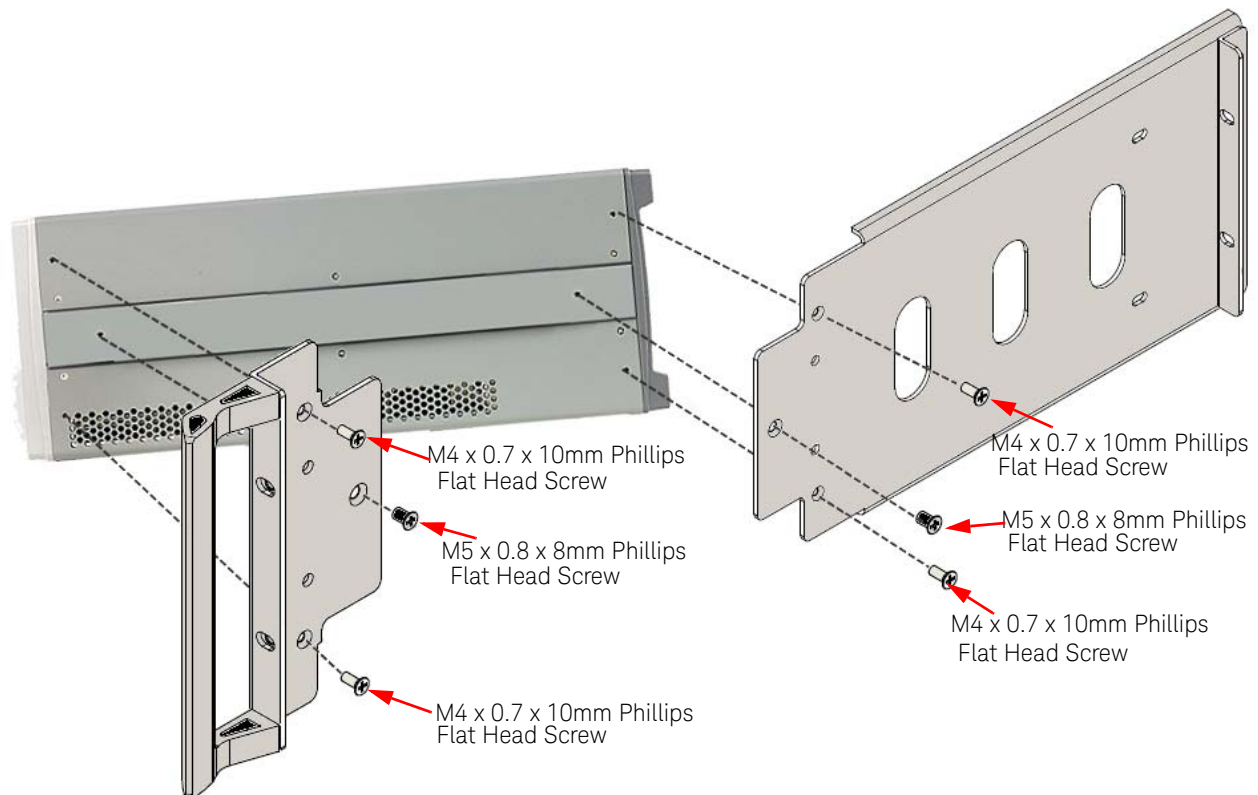

Figure 4 Mounting the front and rear brackets to the M9018A chassis (Right side shown)
- 7 Attach the front and rear mounting bracket assemblies to the chassis. Refer to Figure 4.